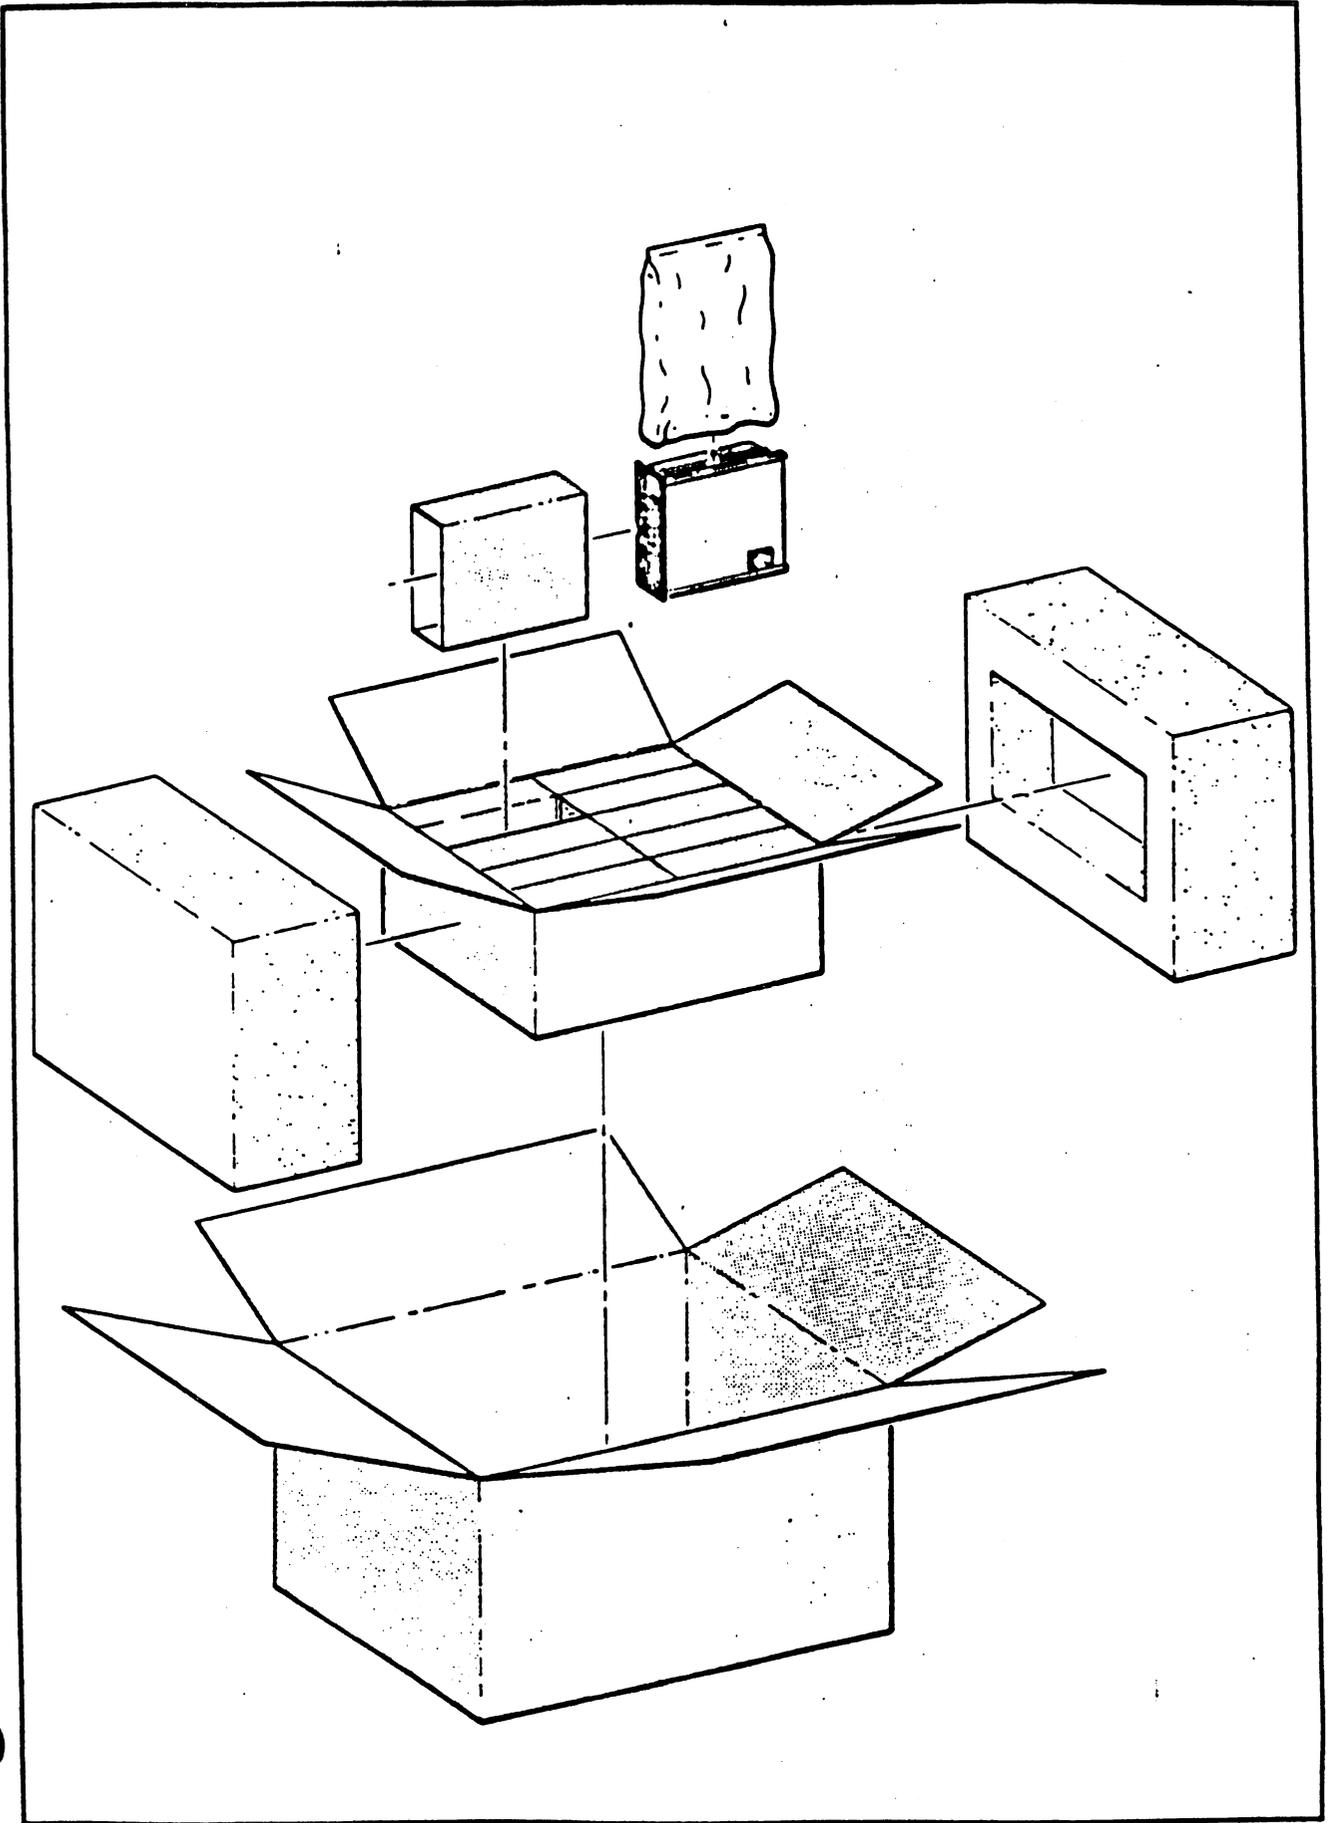

FIGURE 9-2 TEN UNITS PACKAGING CONFIGURATION
- b. Ten units in a single carton (figure 9-2).